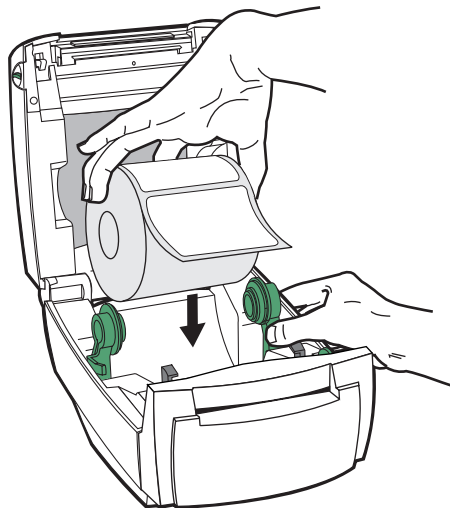

Figure 16
3. Place the media roll onto the media hangers, ensuring that it is tightly wound (refer to Figure 16).